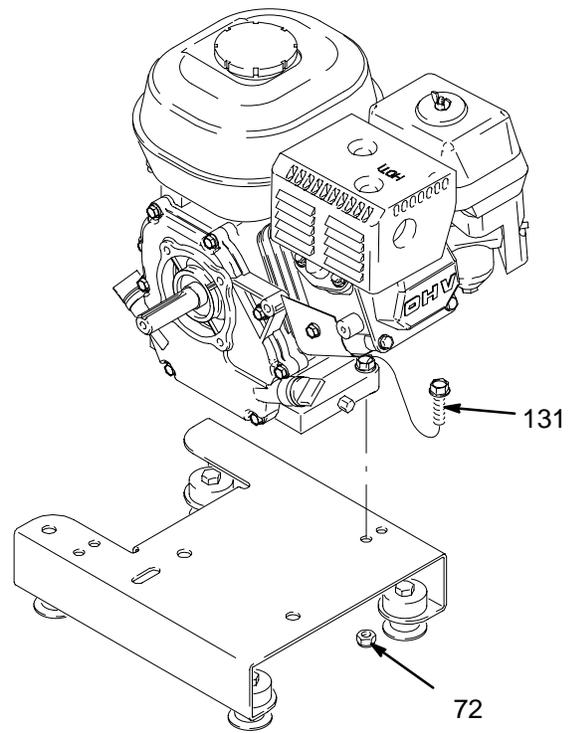

Fig. 5
3. Fig. 5. Remove two locknuts (72) and screws (131) from base of engine.
2. Fig. 5. Install two screws (131) in base of engine and secure with locknuts (72). Torque to 200 in-lb (22.6 N•m).